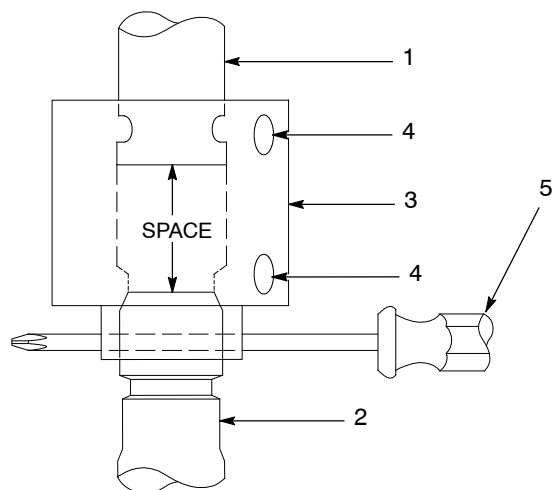

Figure 6 Raising the Plunger
OFF	<ol style="list-style-type: none"> 3. Turn the air motor lockout valve off. 4. See Figure 6. Position both halves of the coupling (3) over the plunger (2) and air motor shaft (1). Align the holes on the side of the coupling with the hole running through the plunger. 5. Secure the coupling halves together with the four coupling screws (4) and insert a screwdriver (5) through the coupling and plunger. <p>NOTE: Make sure that the bleed valve on the pump is open and not plugged.</p>